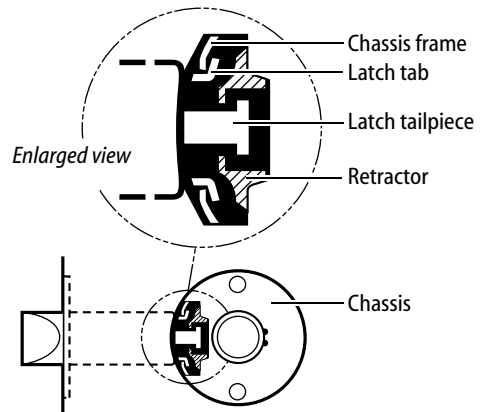

Figure 6 Installing the chassis
- After the retractor has been centered, and with the latch in place, install the chassis from the outside of the door. Make sure the latch tabs fit into the chassis frame and the latch tailpiece fits into the retractor. (See Figure 6.)